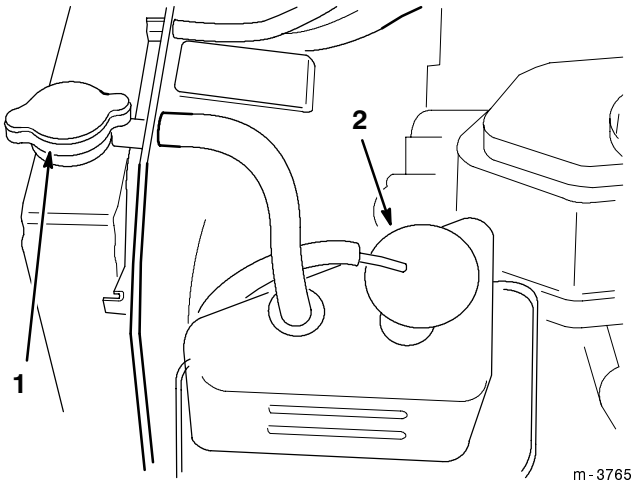

Figure 28
- Remove the radiator cap and reserve tank cap (Fig. 28).